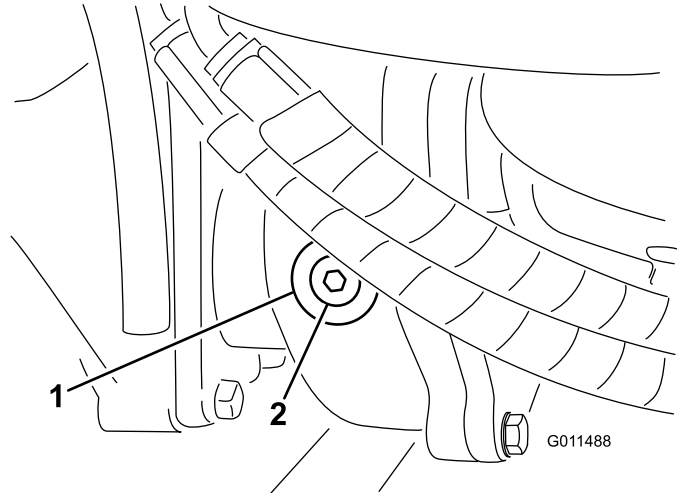

Figure 64
- Remove the check/fill plug from the left side of the gearbox and ensure that lubricant is up to the bottom of the hole (Figure 64).